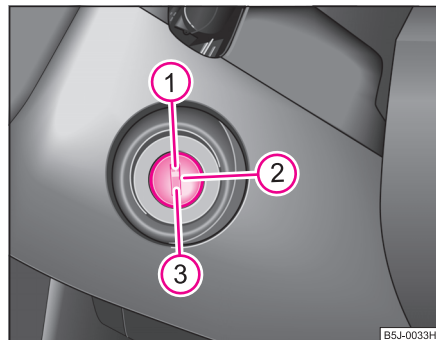

Fig. 89 Ignition lock positions
- The engine can be switched off by turning the ignition key from position ⇒ page 104, fig. 89 into position .